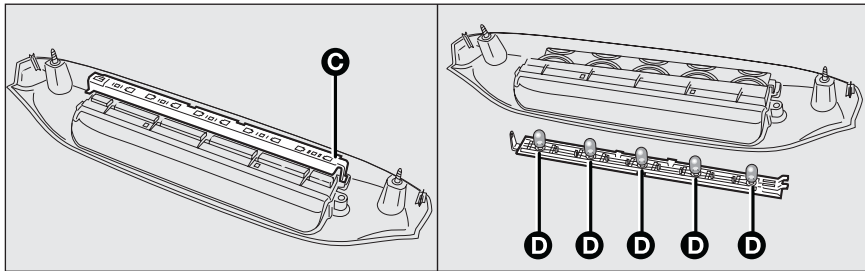

fig. 39
- release clip **C**-fig. 39 and remove the light unit from the lens unit;